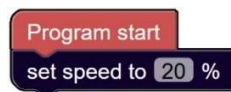

Figure 4
1. You should include the Ozobot Editor block shown in Figure 4 at the beginning of your program, perhaps right after the *Program start* block or in a function where you initialize a number of things required by your solution to the challenge. Why? When ORA is moving at a slower speed, say 20% or less, you have more time to prevent an impending collision with the table or cubes that have already been placed by ORA. Of course, this also allows a person more time to move out of the way of ORA's moving arm! This is particularly important throughout the development process while creating your program, when you are more apt to make errors in coordinate values in *move to coordinates* blocks.